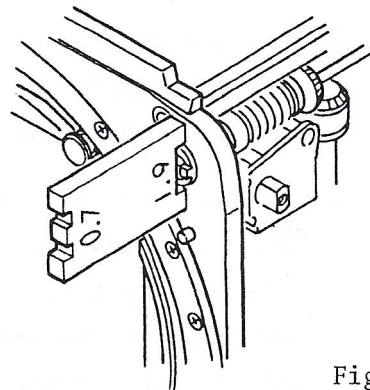

Fig. 78
- b. Make the protrusion of the signal bar 1.9mm by applying the RZ-5 gauge 1.9 side. (Fig. 78)